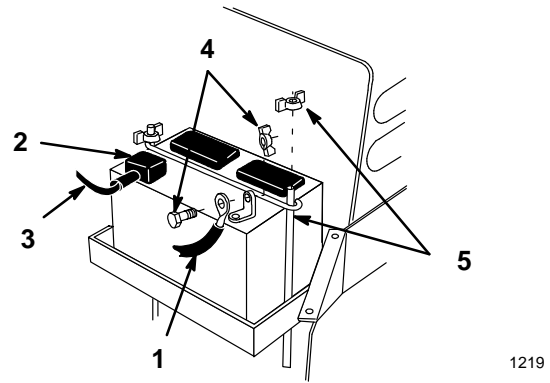

Figure 33
4. Disconnect the negative (black) ground cable from the battery post (Fig. 33).
5. Lift the rubber cover up on the positive (red) cable. Disconnect the positive (red) cable from the battery post (Fig. 33).
6. Remove the battery hold down rods (Fig. 33).
9. Using the bolt and wing nut, connect the positive (red) cable to the positive (+) battery post (Fig. 33). Slide the rubber cover over the battery post.
10. Using the bolt and wing nut, connect the negative (black) cable to the negative (–) battery post (Fig. 33).